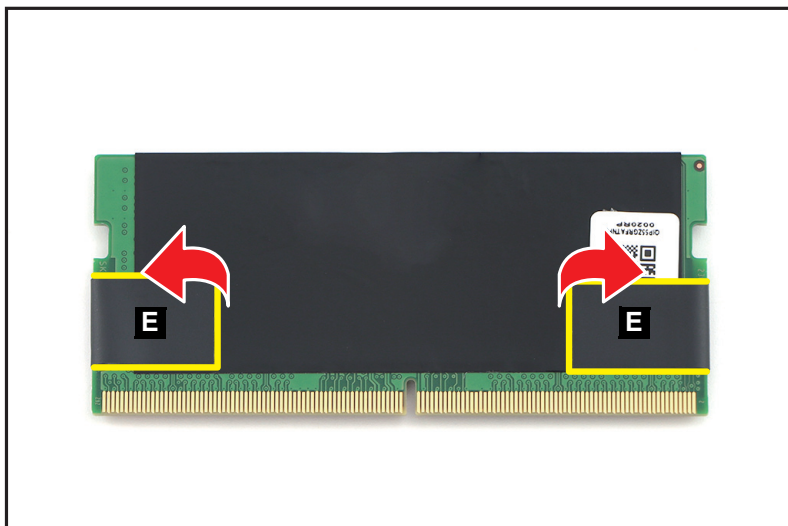

Figure 1-28. DIMM Module Removal
5. Detach the tabs (E) of the composite foil with thermal pad from the DIMM module as shown in Figure 1-28.